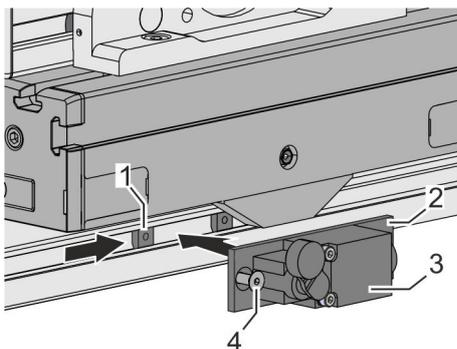

Fig. 38: Assembling the limit switch
3. Insert and position the slot stones (Fig. 38/1) in the slot of the guide profile.
4. Place the limit switch (Fig. 38/3) along with a holding plate (Fig. 38/2) at the height of the inserted slot stones.
5. Tighten 2 screws (Fig. 38/4):